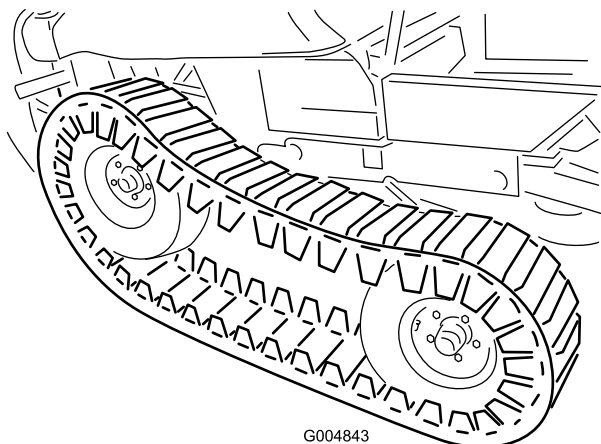

Figure 54
20. Adjust the floor jack to a suitable height to install the front tire. With a helper, lift the front of the track enough to carefully install the front tires (Figure 54).